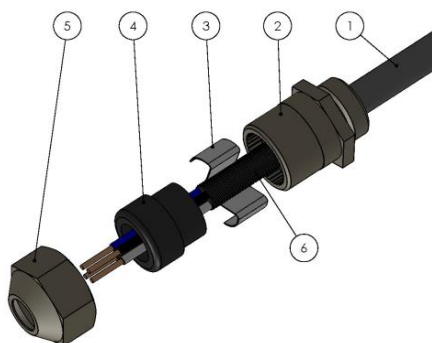

Fig. 78: Spring on naked screen
7. Make sure all cables (Fig.78/1) are placed correctly and the spring (FIG.78/3) is in full contact with the naked screen (Fig.78/6).
8. Tighten the pressure screw (Fig.78/1) of each cable gland so that the cable is fixed.